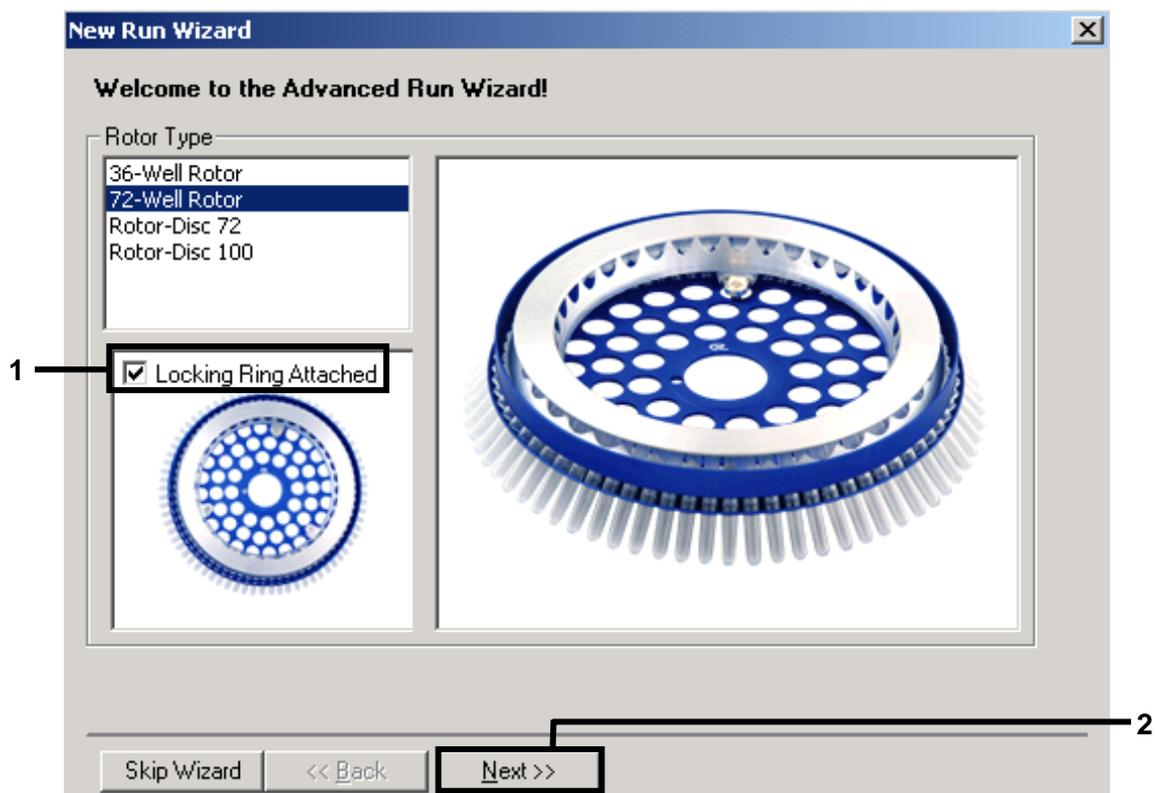

Figure 1. The "New Run Wizard" dialog box.
Setting the general assay parameters	Figures 1, 2, 3
5. First, open the "New Run Wizard" dialog box (Figure 1). Select the rotor used. Check the "Locking Ring Attached" box and click "Next".